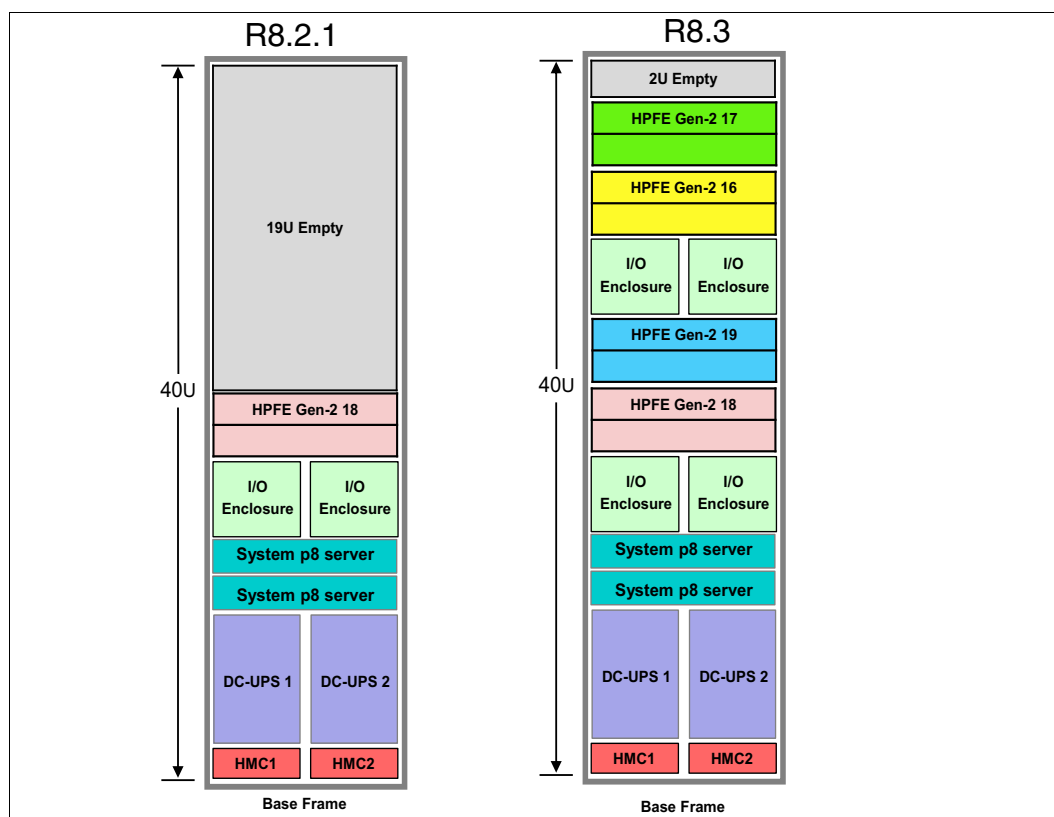

Figure 2-8 DS8884 MTM 533x model 984
- DS8884F can be upgraded with an additional three pairs of HPFE Gen2 enclosures. Capacity increases from 48 to 192 flash drives, as shown in Figure 2-8.